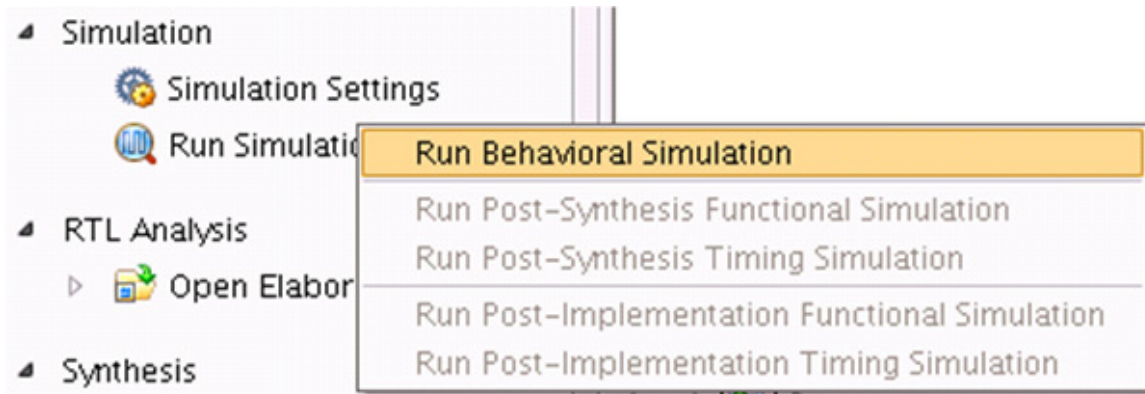

Figure 2-51: Run Behavioral Simulation
3. In the Flow Navigator window, select **Run Simulation** and select **Run Behavioral Simulation** as shown in Figure 2-51.
4. In the **Flow Navigator** window, select **Run Simulation** and select **Run Behavioral Simulation** as shown in Figure 2-51.